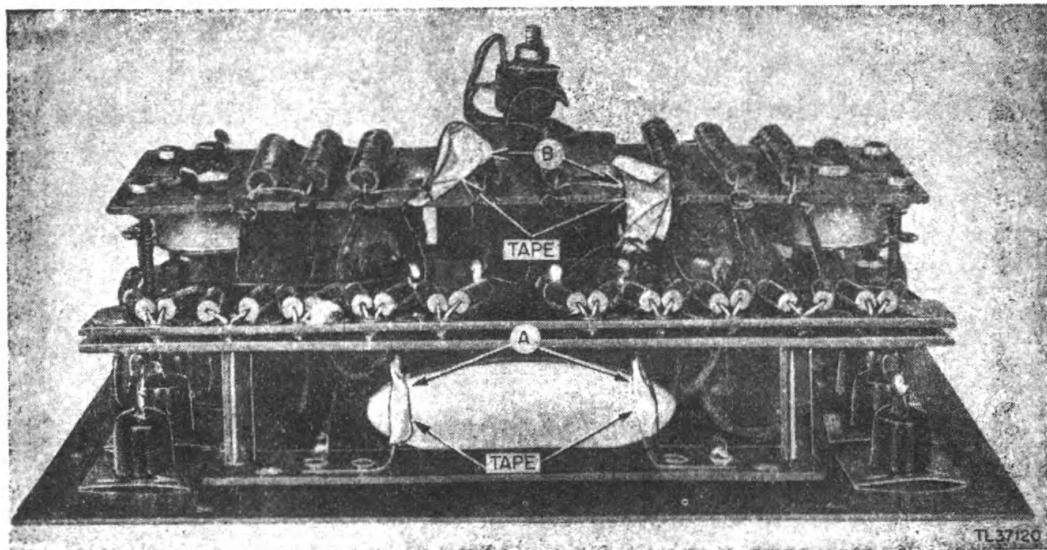

Figure 15. Test Set 1-179, method of masking contact strips and meter leads.
(3) MASKING. The following components should be covered with masking tape as shown in figures 15 and 16.
- (c) Contact-strips of Battery BA-42, item A, figure 15.
- (d) Terminals of the meter leads, item B, figure 15.